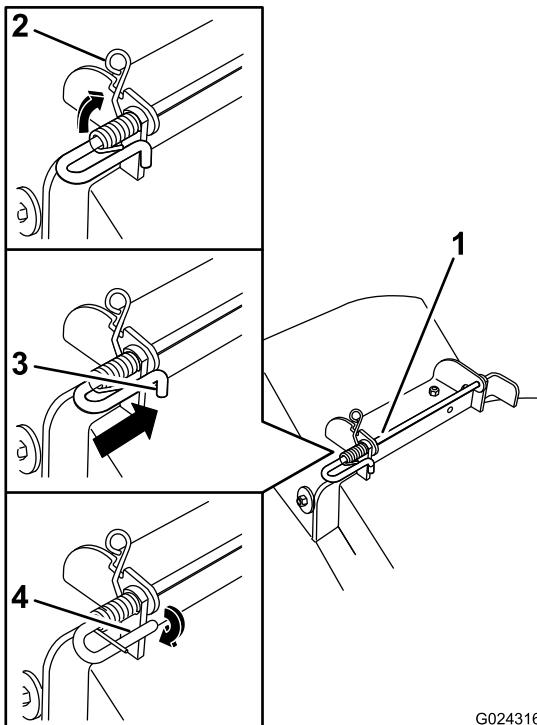

Figure 68
5. Lift the loop end of the spring and place it into the notch on the deflector assembly bracket (Figure 68).
6. Secure the rod and spring assembly by twisting it so the short end of the rod can be placed behind the front bracket welded to the deck (Figure 68).